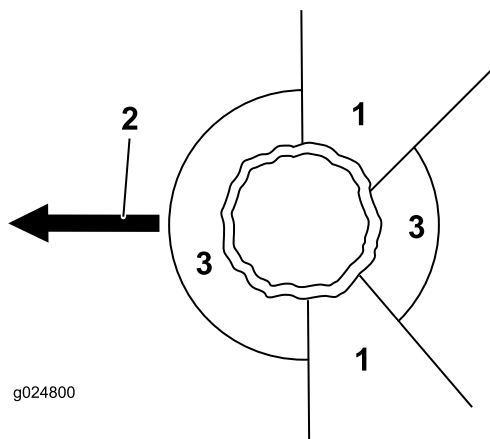

Figure 15
2. Determine a clear, safe retreat path away from the danger area; refer to Figure 15.